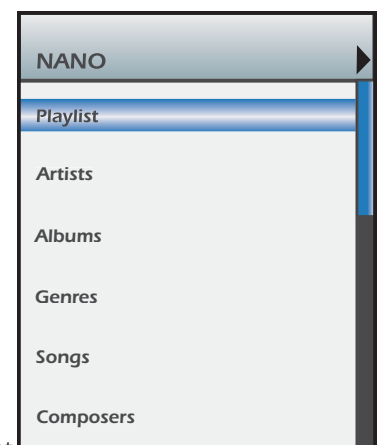

Figure 34
2. **Press** the **Click Button** to **select** the **highlighted iPod**. The selected iPod will appear at the top of the LCD and the iPod Main Menu will open in the LCD. (Refer to **Figure 34**)